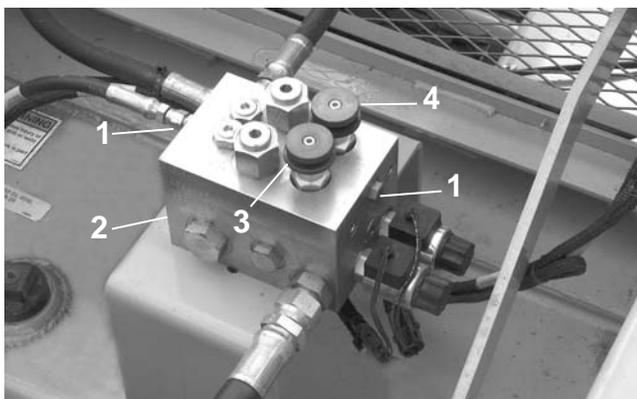

Figure 27. Conveyor Block
1) Install a 1000 psi gage, with a shutoff valve in the port marked “TP” on the conveyor manifold located on top of the hydraulic reservoir (Fig 27 Ref 2). This port is SAE 04 and requires a 9/16 wrench to remove the plug.